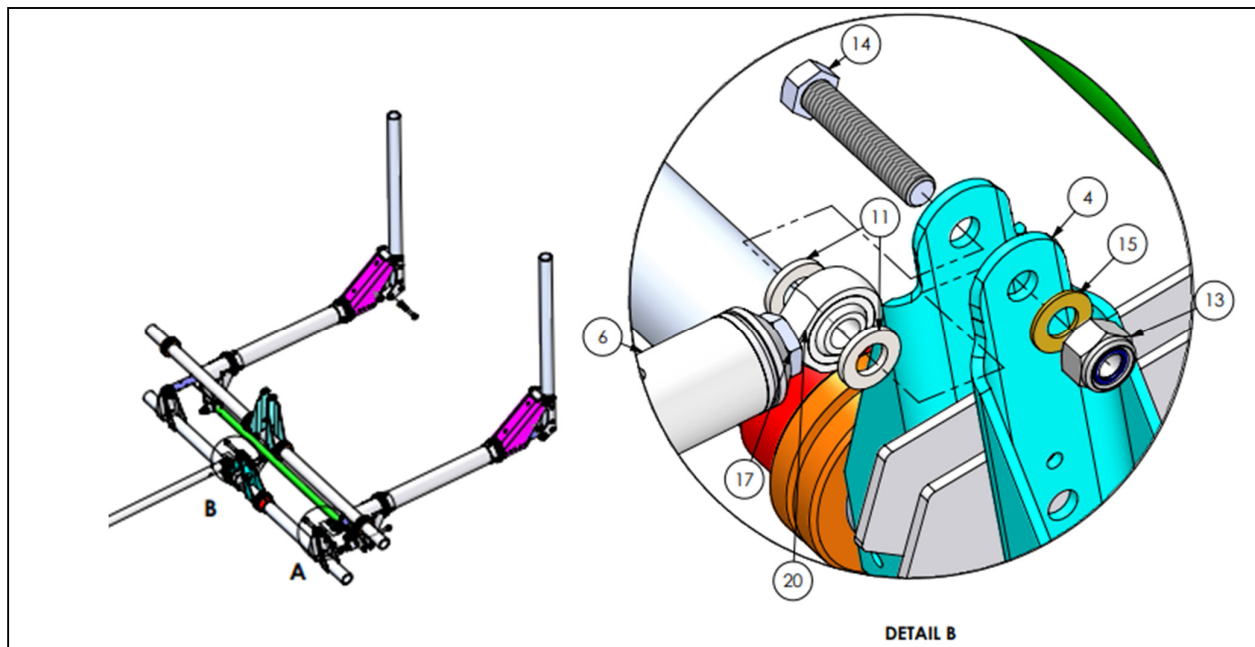

Figure 25: Eyebolt assembly, Detail B
- Step 5. Next inspect the eyebolts seen in Detail B of Figure 25.
- Step 6. Remove the AN4 locknut (13) and bolt (14), as seen in Figure 25. Once removed the eyebolt can be uninstalled and an eyebolt of *type 1* or *type 2* can be reinstalled.
- Step 7. Reassemble the eyebolt assembly, refer to Figure 25 for part placement.